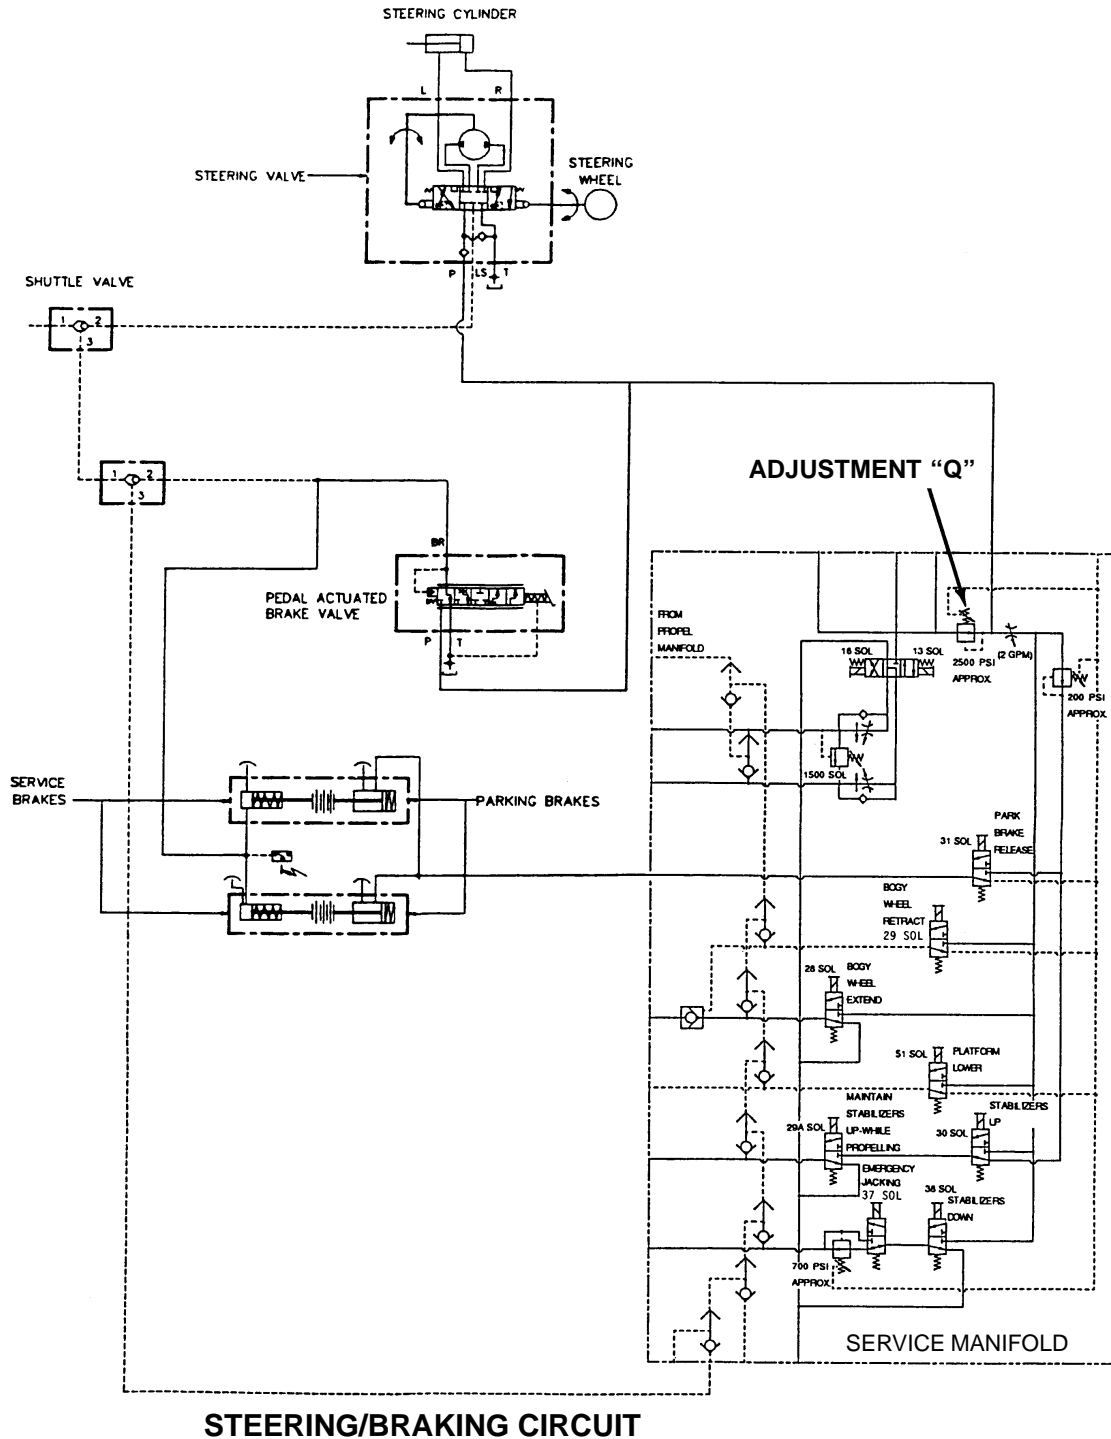

Figure 20
- (8) Remove caps and plugs from hoses and adapters and reinstall hoses on adapters.
- (9) Clean up any hydraulic oil that has leaked.
- (10) Have assistant start power unit and raise platform. Remove and stow maintenance stands, lower platform, and shut down power unit.
Q. Power Steering Pressure Reducing Valve Adjustment (Figure 19, Figure 20)